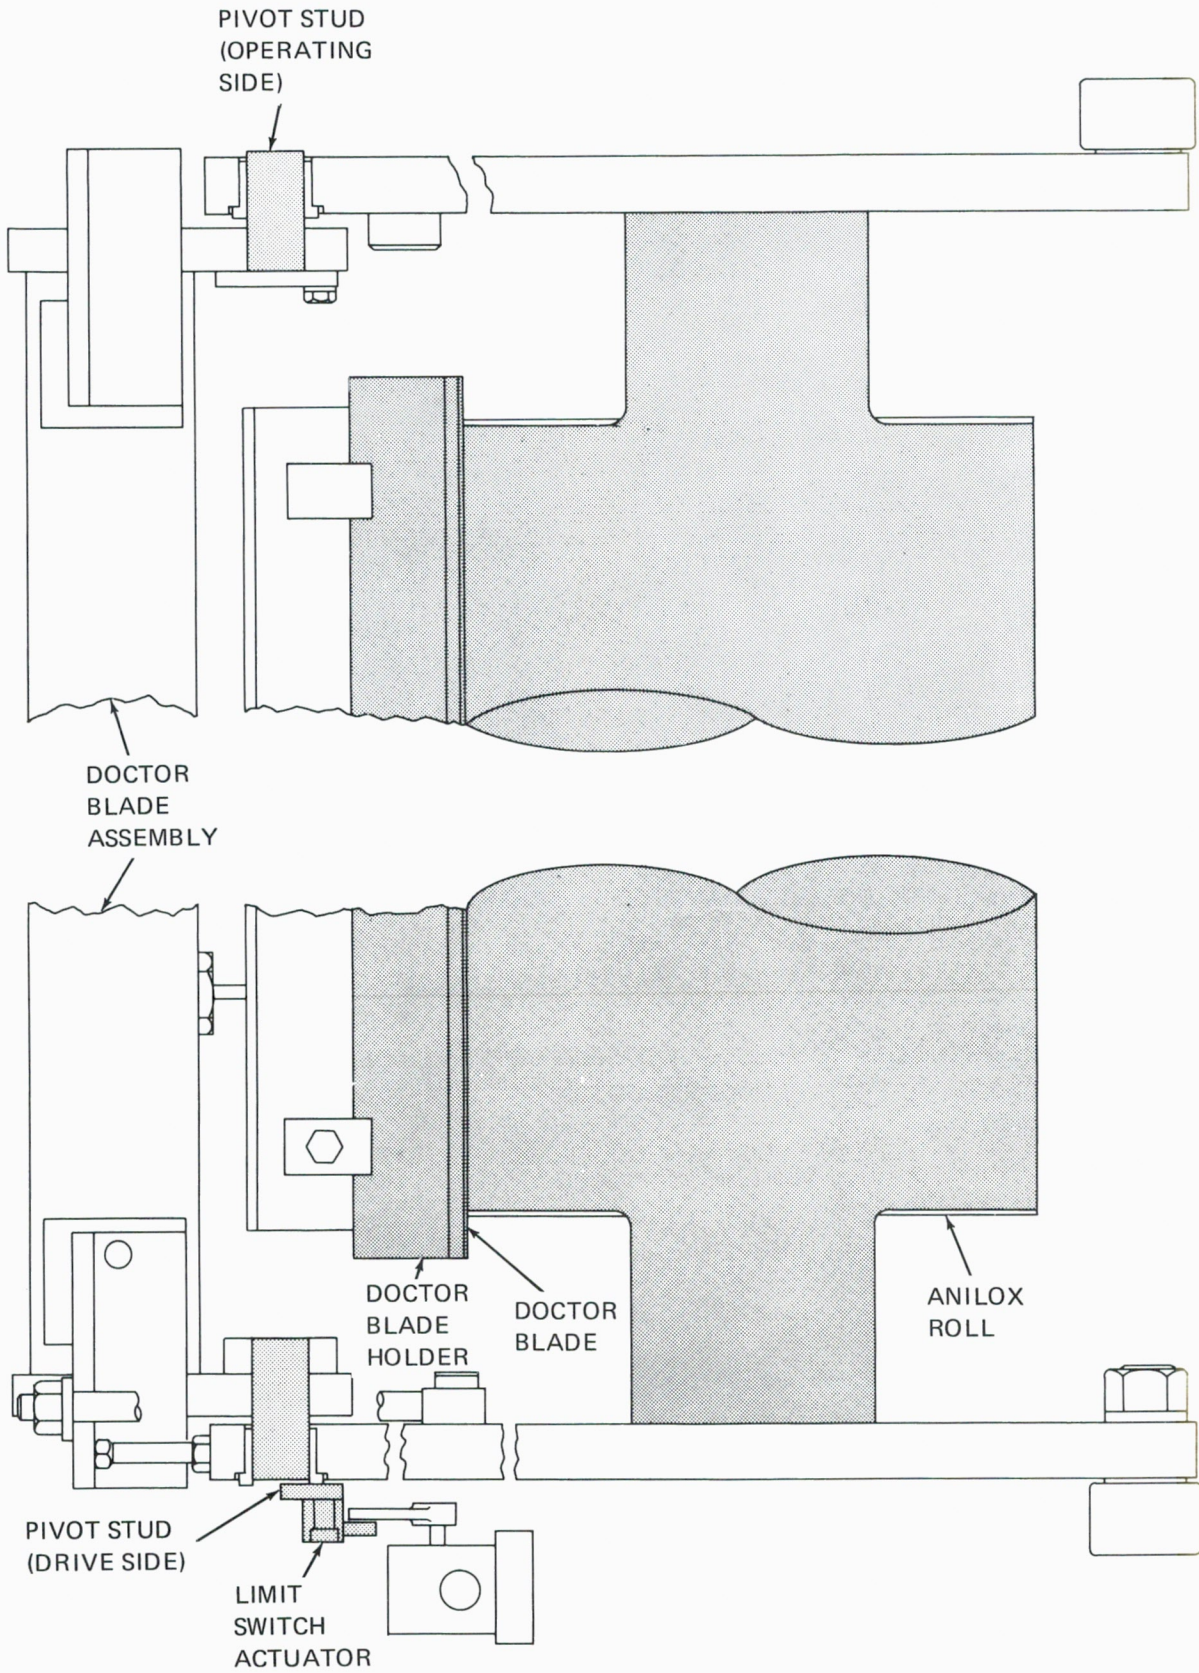

FIGURE 4-24. REMOVING DOCTOR BLADE ASSEMBLY
g. Replacing the Anilox Roll (Figure 4-24, 4-28 through 4-30)
- Step 3) Remove the manifold assembly pivot stud (Figure 4-24) on the operating side of the machine.